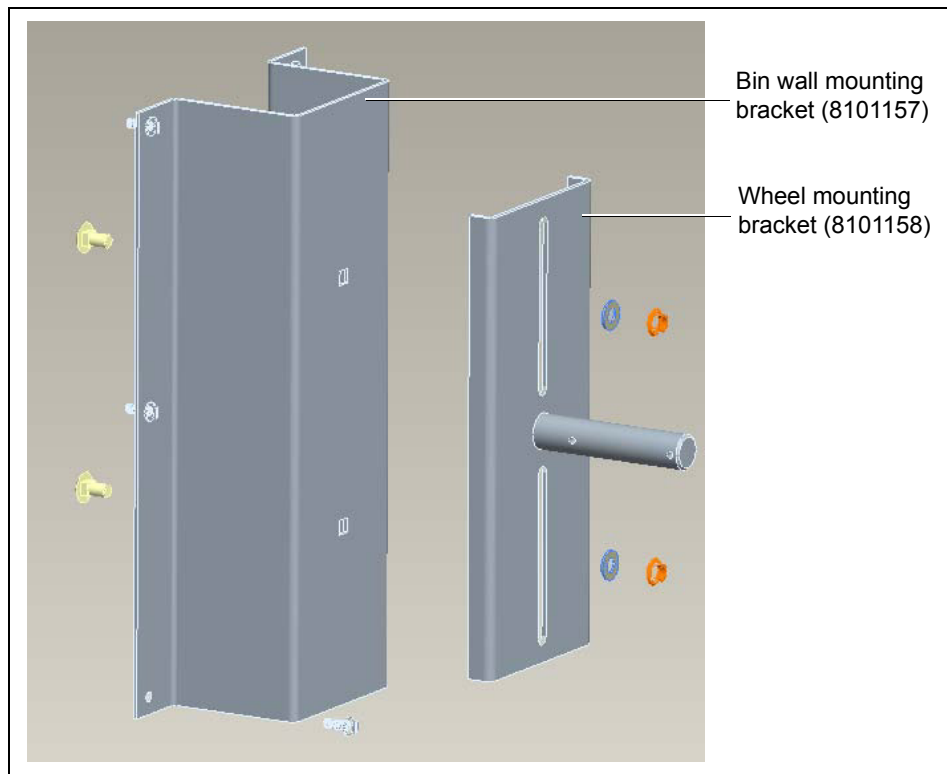

Figure 4
2. Attach the ground control wheel bracket to the bin wall directly below the idler bracket. Assemble the wheel mounting bracket loosely to the wall bracket and slide it up as far as possible. (See Figure 4.)